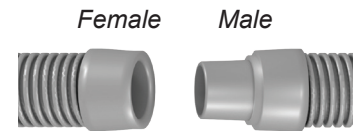

Figure 2
1. Connect sufficient lengths of hose by inserting the male hose end into the female end (see **Figure 2**) until you have sufficient lengths of hose to cover the distance from the pool skimmer or dedicated suction line to the furthest point of your pool.